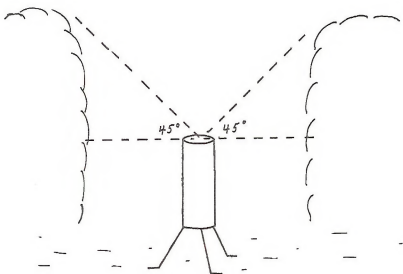

Figure 2. The cone above the gage should not be obstructed.
- Starting at the top of the container, measure up and out at a 45° angle. All vegetation should fall outside the imaginary cone. (Figure 2)